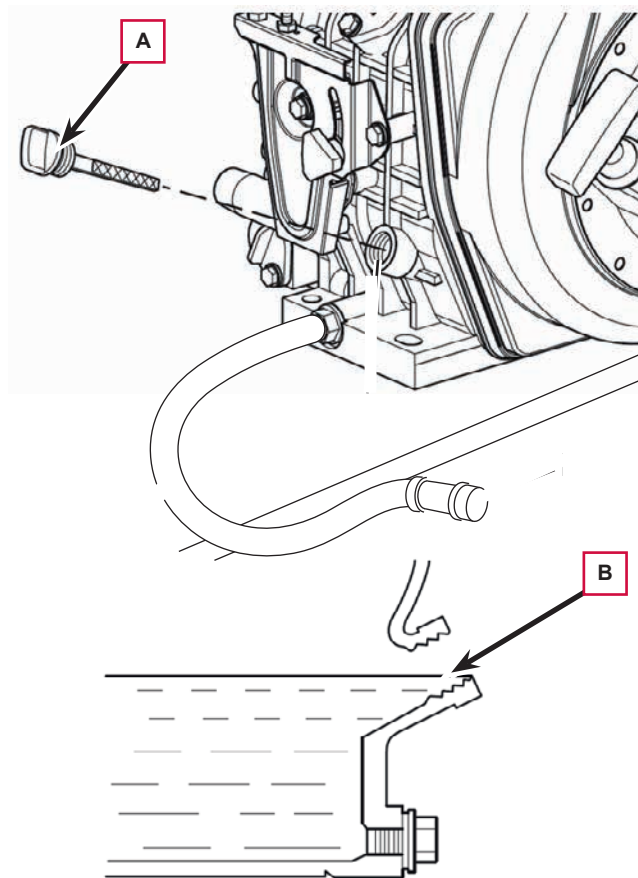

Figure 5
5. Remove the cap (A, Figure 5).
6. Check the oil level. If it is below the upper limit (B), top up with the recommended oil until you reach the upper limit.
7. Reinstall the filler cap (A) safely..